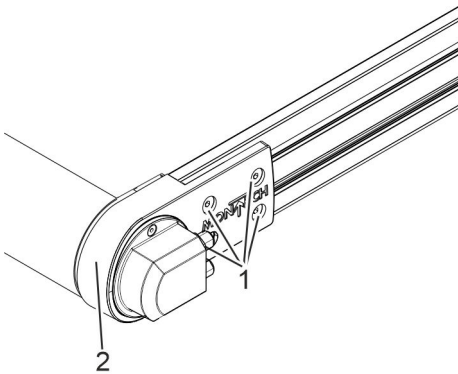

Fig. 75: Replacing the drive unit
5. ▶ Loosen and remove four screws (Fig. 75/1).
6. ▶ Pull out the drive unit (Fig. 75/2) in the direction of the connector plugs.
7. ▶ Slide in the replacement drive unit (Fig. 75/2) from the direction of the connector plugs. The bearing is located on the opposite side.
8. ▶ Insert and tighten four screws (Fig. 75/1) on both sides.